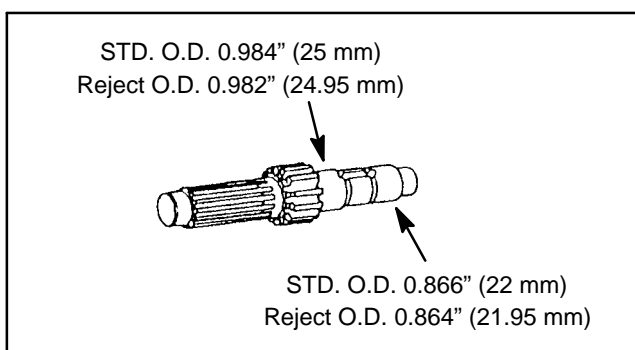

Figure 66
A. Inspect reduction shaft for wear or damage. If O.D. of needle bearing area is less than reject size specified in Figure 66, replace the reduction shaft.